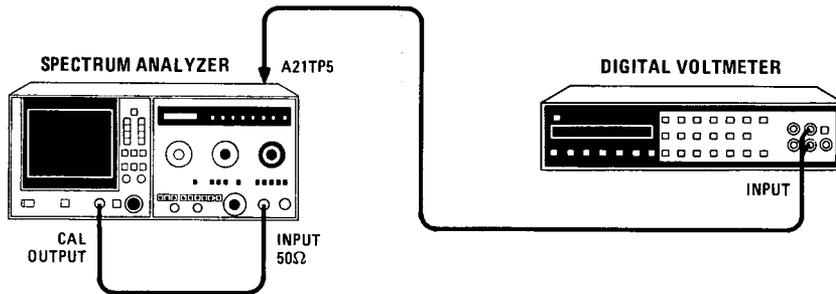

Figure 7-1. Video Offset Adjustment Test Setup
Add paragraph 7-4 of this section (including Figures 7-1 and 7-2).
2. Reconnect power cord, set LINE switch on, and connect equipment as shown in Figure 7-1.